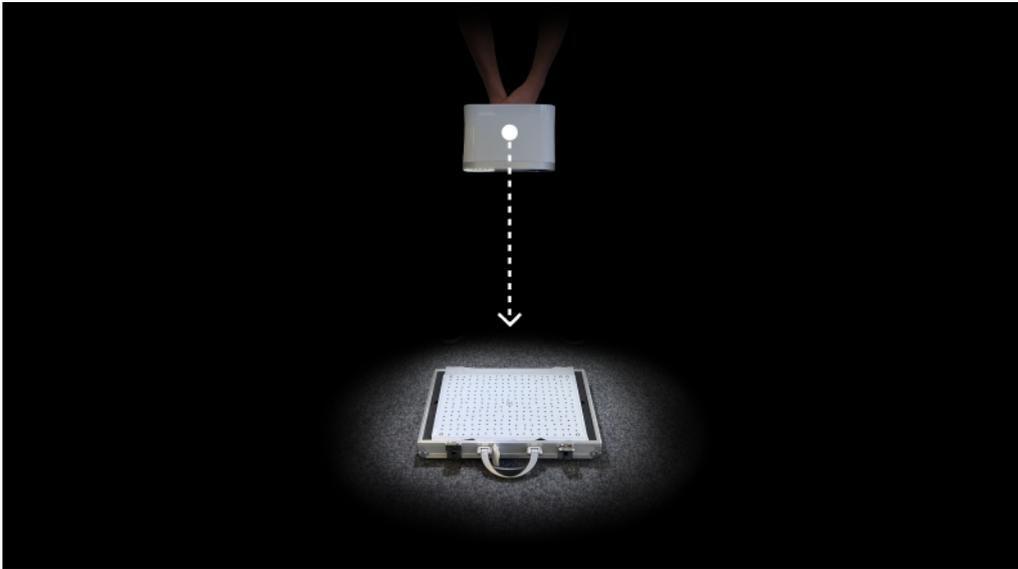

Figure 46: Forward and backward scanning of the board.
10. Lastly, you need to hold Leo over the *Calibration board*, and move it perpendicularly forward and backward, along the z-axis (See Figure 46).
12. Maintain the recommended distance between the 'calibration board' and scanner at all times. If the scanner is too far from the board, Leo will display an error on the scanning screen Figure 46.